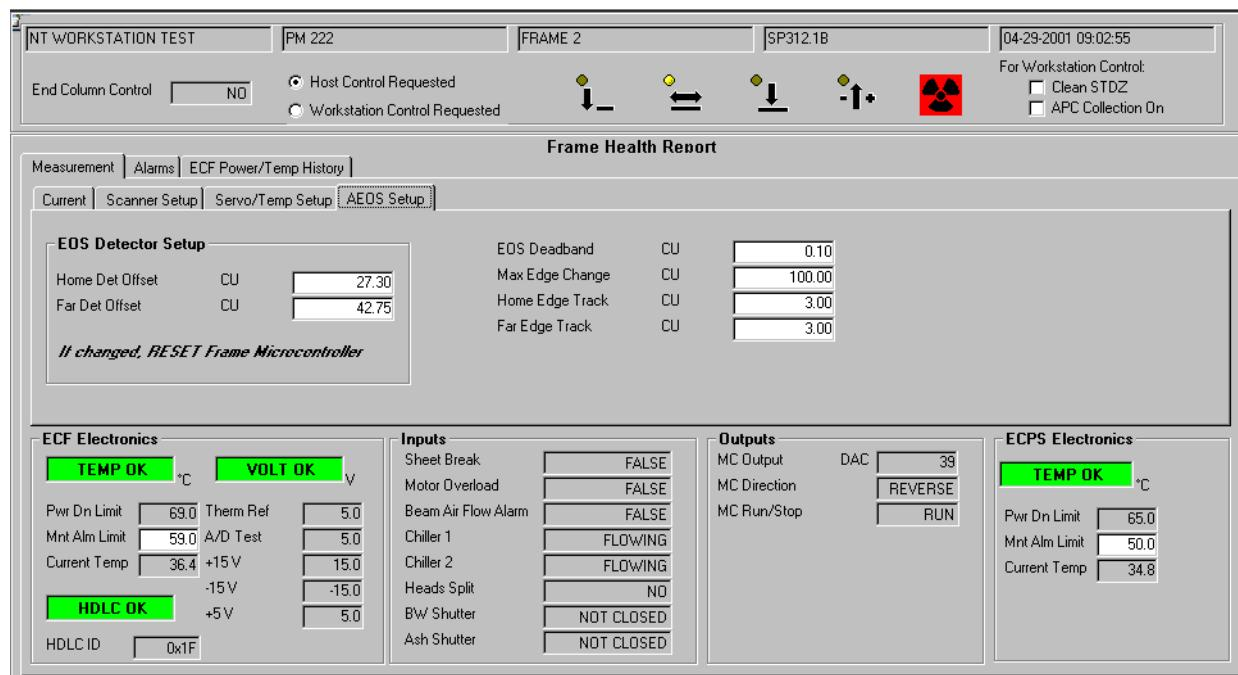

Figure 5-17 NT Workstation Frame Health Report - AEOS Setup
1. At the Service Workstation, access the Frame Health Report. See Figure 5-17.